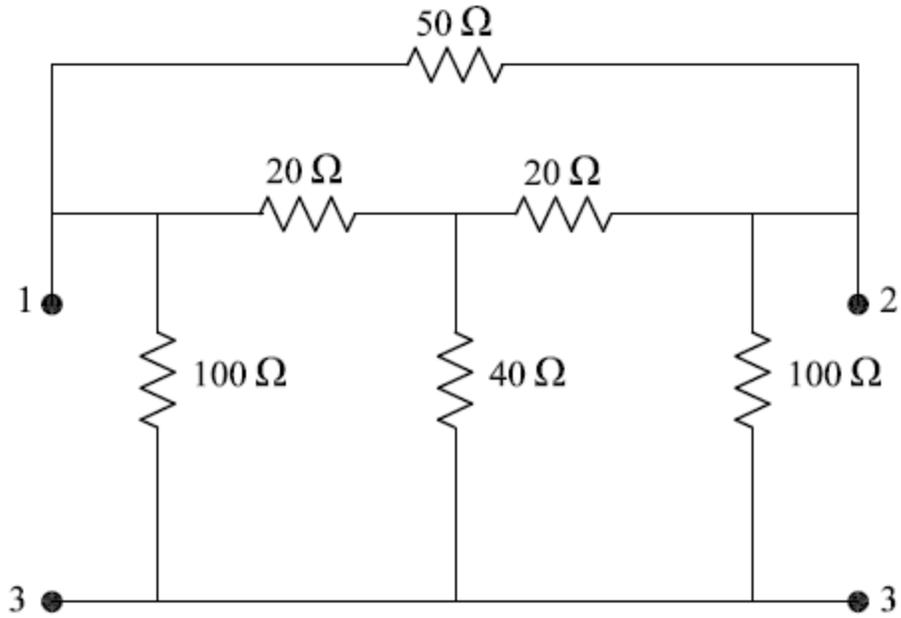

Fig 4 : experimental circuit of part 3
1. connect the circuit of fig 4